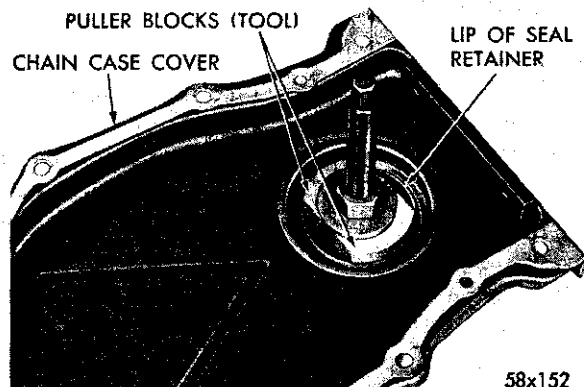

Fig. 22—Removing Timing Chain Case Cover Oil Seal Using Tool C-3506
- (1) Position the puller screw of Tool C-3506 through the case cover, the inside of the case cover up. Position the puller blocks directly opposite each other, and force the angular lip between the neoprene and flange of the seal retainer.
- (2) Place the washer and nut on puller screw. Tighten the nut as tight as possible by hand, forcing the blocks into gap to a point of distorting the seal retainer lip (Fig. 22). This is important (puller is only positioned at this point).